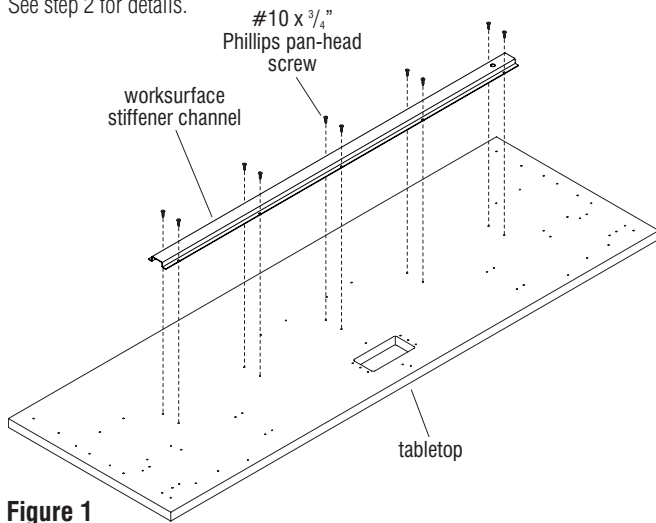

Figure 1
3. If tabletop requires a stiffener, position stiffener channel onto the tabletop underside, aligning the stiffener mounting holes with the pre-drilled holes in the table. Secure stiffener to top using #10 x 3/4" screws through all stiffener mounting holes provided (Figure 1).